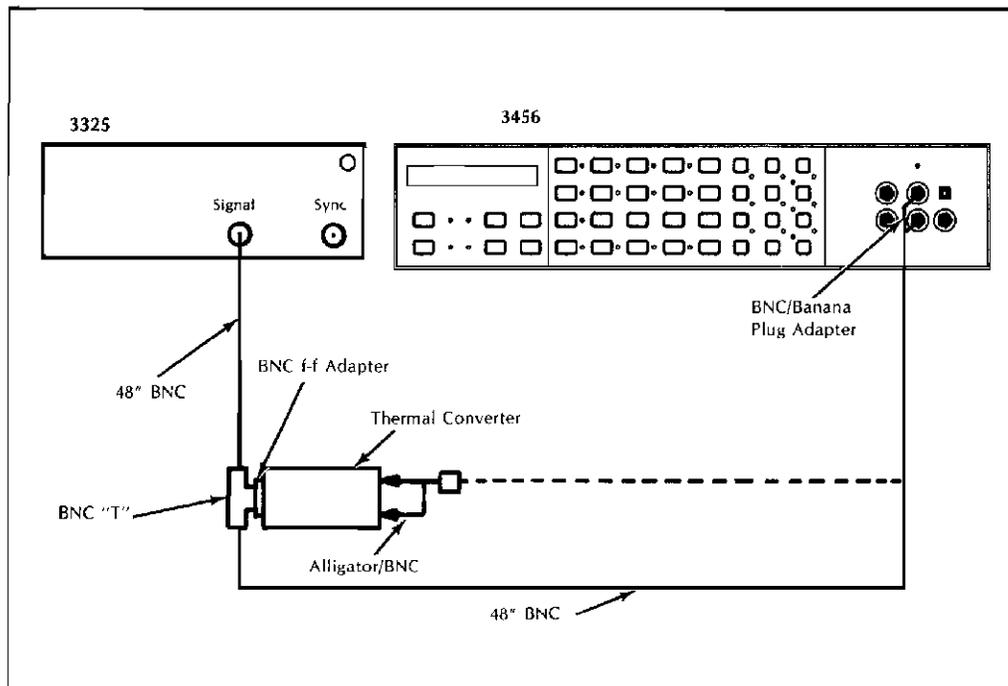

Figure 3-10 Thermal Converter Calibration
- r. Connect the equipment as shown in Figure 3-10. (Adjust the synthesizer amplitude until the voltmeter reads the voltage reference level calculated in step o.)